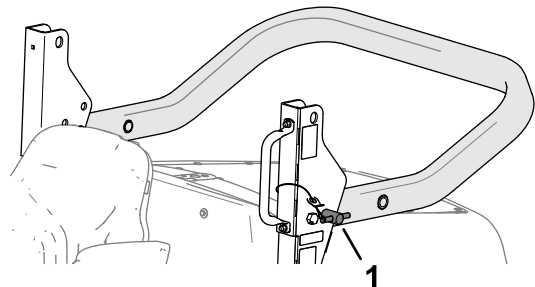

Figure 30
5. Insert the roll-bar pins in the lower holes of the pivot brackets (Figure 30).